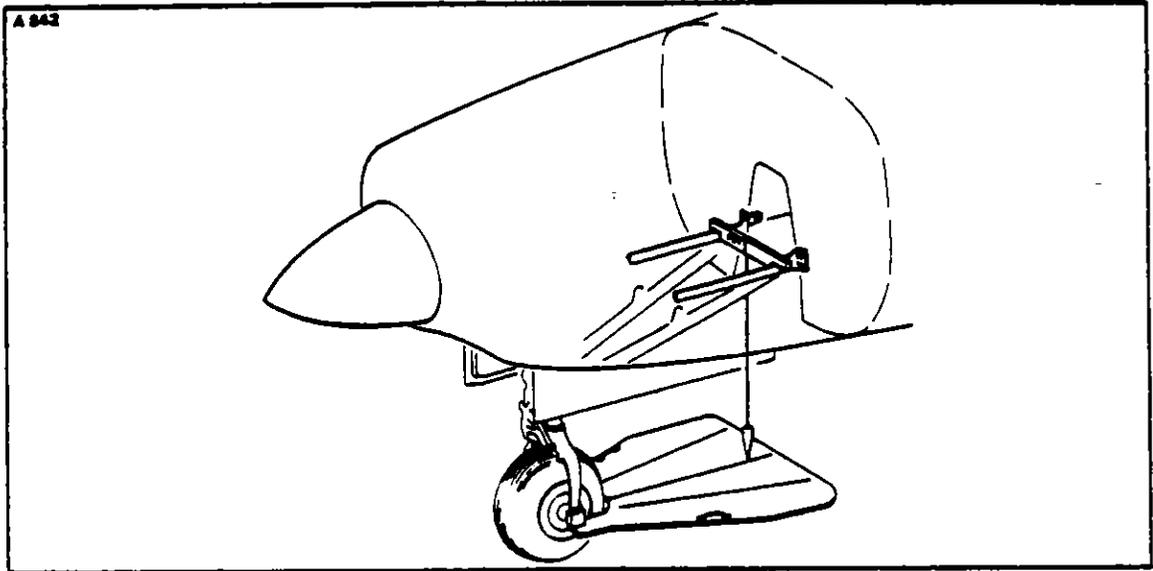

FIGURE 6-6. INSTALLATION OF PLUMB BOB ATTACHMENT TOOL AND ALIGNMENT JIG
- (b) Install the plumb bob attachment tool on the forward edge of the lower fire wall flange, or on the two nose gear brace tubes as shown in Figure 6-6 and attach a plumb bob to the tool. (This tool may be fabricated from dimensions given in Figure 6-38.)
- (a) Attach a plumb to the plumb bob attachment tool and install tool on the forward edge of the lower fire wall flange, or on the two nose gear brace tubes as shown in Figure 6-6.
- (b) Attach aligning jig to the rear of the nose wheel at the axle as shown in Figure 6-6.